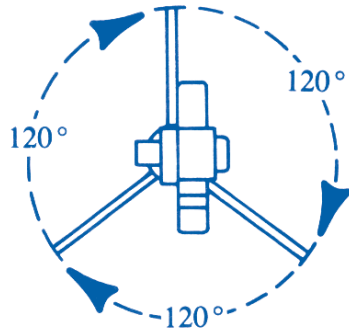

Figure 5
- Be sure the legs are equidistant from one other (Figure 5.)